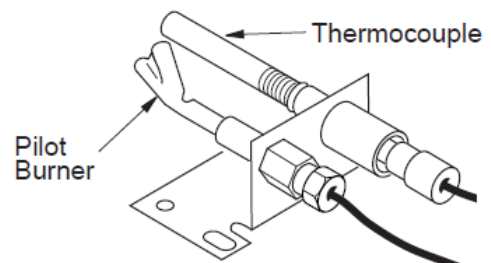

Figure 23 - Pilot Inlet Air Hole (Your pilot may vary from pilot shown)
6. In case any large clumps of dust have now been pushed into the burner repeat steps 3 and 4. Clean pilot assembly also. Additional cleaning may be needed for proper pilot operation based on use/lack of use. A yellow tip on the pilot flame may indicate dust and dirt in the pilot assembly. There is a small pilot air inlet hole about from where the pilot flame comes out of pilot assembly (see Figure 23). With unit off, lightly blow air through air inlet hole. You may blow through a drinking straw if compressed air is not available.